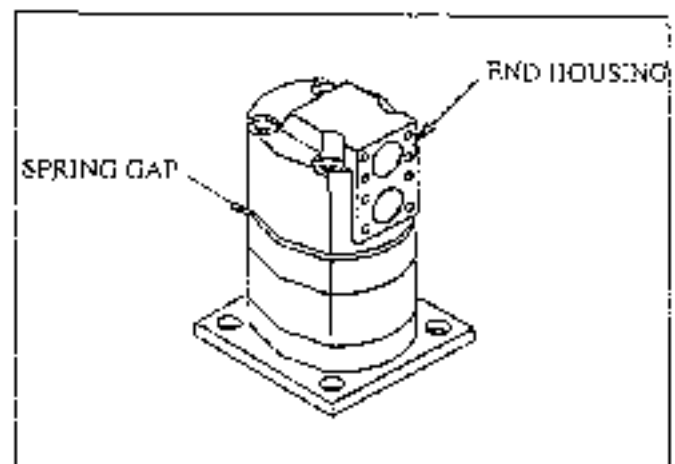

Figure 53
11. Align the dowel pins of the balance plate with the holes in the end housing and install the balance plate into cover. Hold with fingers, through the drain ports, and install the cover over the studs. See Figure 53. Position the housing so that the drain ports are aligned.
12. When the end housing is in place, it should be suspended as shown in Figure 53. If the housing cannot be compressed by hand, a spring has fallen out of place. Make this check before installing the nuts.